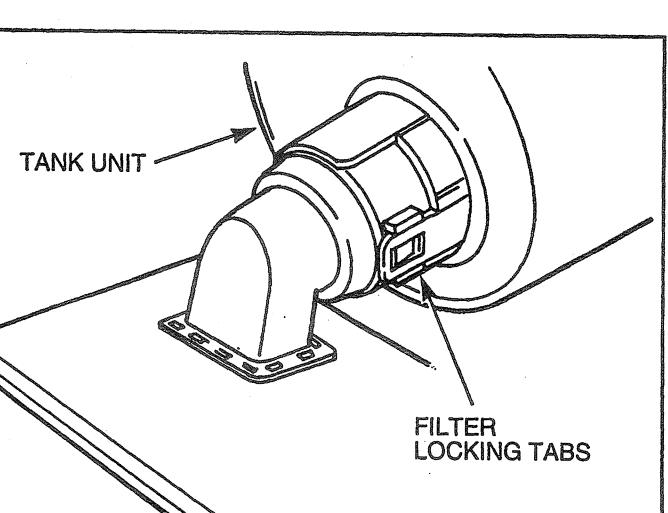

FIG. 3
G) Obtain the new tank unit. Assure the tank seal is properly positioned on the underside of the tank unit flange. Also check to insure the filter locking tabs are engaged with the tank unit. (See Fig. 3) If the tank unit has the level sender/float arm assembly on it, be sure it operates freely.